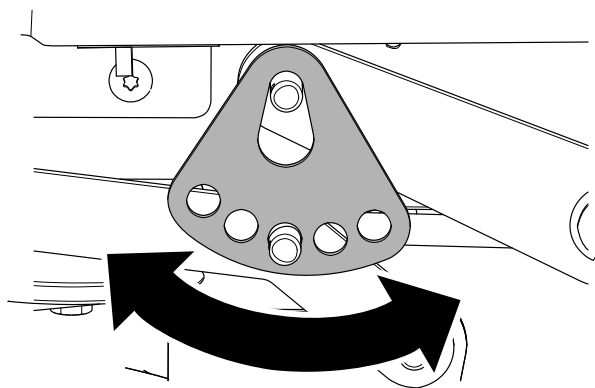

**Figure 63**
6. Remove the hairpin cotter and washer from the lower lift-arm pin (Figure 63).